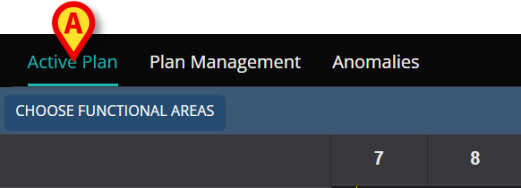

Fig 47
- Click the ACTIVE PLAN tab on the tab selector (Fig 47 **A**).